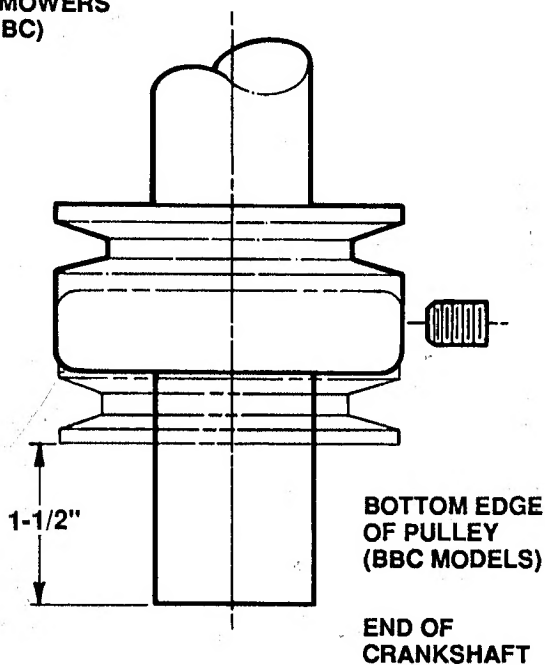

FIGURE 2.6
1. Position bottom edge of engine pulley 1 1/2" from end of crankshaft. See Figure 2.6.